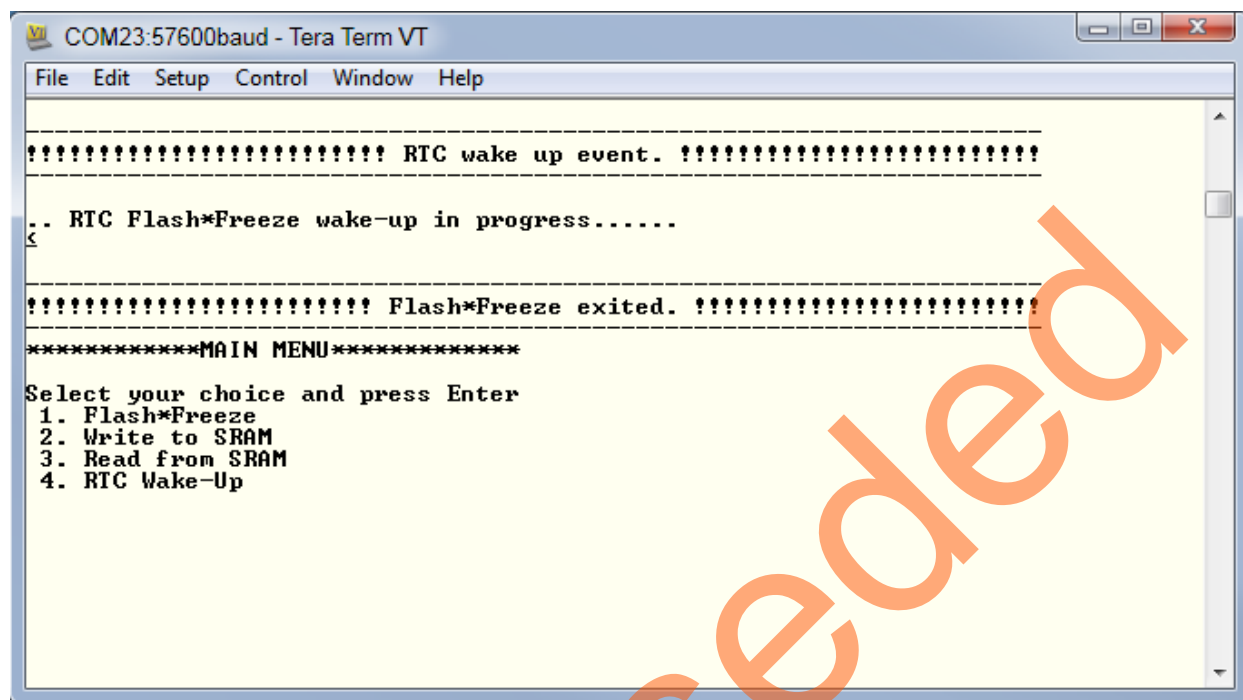

Figure 16 • RTC F*F Exit Event
2. Select 4 (RTC Wake-Up). The RTC is initialized with an RTC_PRESCALER value. The RTC counter is reset then the RTC is configured as Single Shot Alarm mode. The counter is then started. When the counter reaches its set value, an interrupt is triggered and the device wakes up from F*F mode, as shown in Figure 16 on page 16.